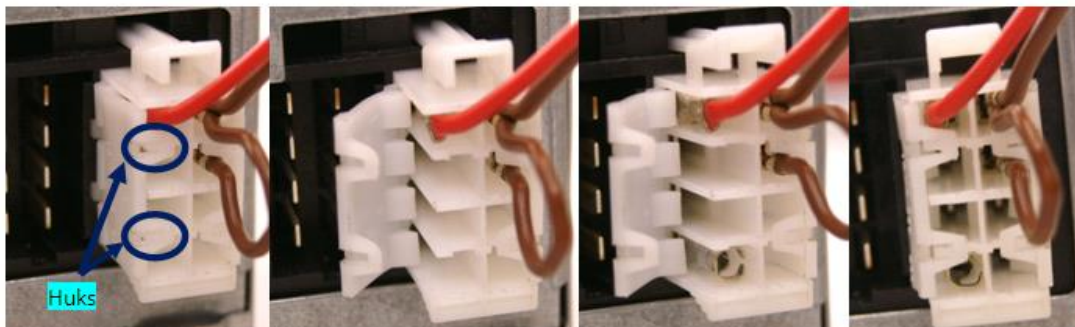

Figure 76 Adding contact on tachograph connector
- Tachograph mounted on vehicles does not have D8 contact. In order to add it, you have to undo the hooks and add the contacts (Figure 76). Contact code in Farnell system: 927368-1.